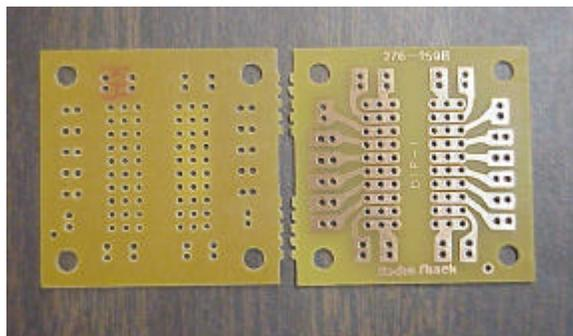
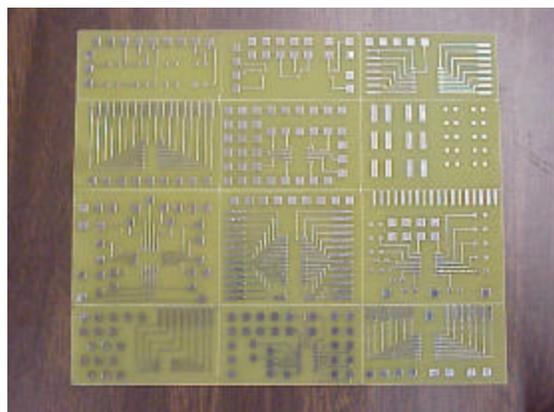

Figure 15. Single DIP prototyping board.
Figure 16. Prototyping board for surface mount components
1. Commercially available prototyping boards. Several types of prototyping PCBs are available for special applications. Figure 15 shows a board intended for use with a single DIP IC and Figure 16 shows a board with many small prototyping boards (“cracker board”) for surface mount components.